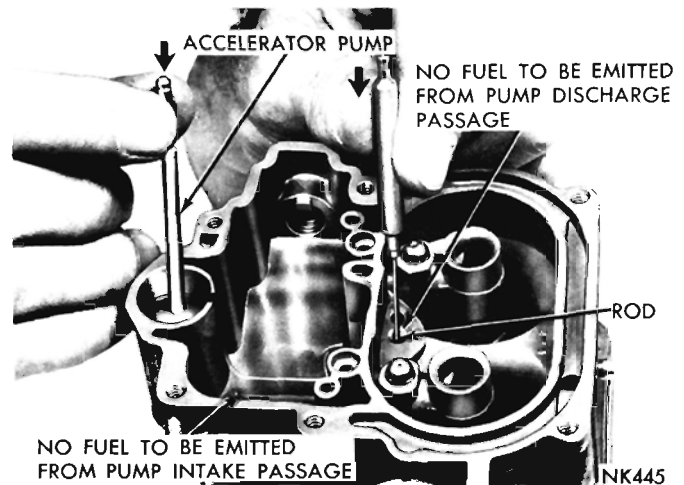

Fig. 13—Testing Accelerator Pump Intake and Discharge Check Balls
(1) Pour clean gasoline into the carburetor bowl, approximately $1/2$ inch deep. Remove the accelerator pump plunger from the jar of gasoline and slide it down into the pump cylinder. Raise the plunger and press lightly on the plunger shaft to expel the air from the pump passage.
(2) Using a small clean brass rod, hold the discharge check ball firmly down on its seat. Again raise the plunger and press downward. No fuel should be emitted from either the intake or discharge passage, as shown in (Fig. 13).
(3) If any fuel does emit from either the intake or discharge passages, it indicates the presence of dirt or an imperfect check ball seat. The passage should be recleaned and then thoroughly blown out with compressed air. Examine the check ball seat for signs of damage that would not allow the ball to seat properly.
(4) Reinstall check ball and test again. If still leaking, place a piece of drill rod down on ball and rap sharply with hammer. Remove the old check ball and install new ball. Then retest. (This operation forms a new ball seat in the carburetor casting.)